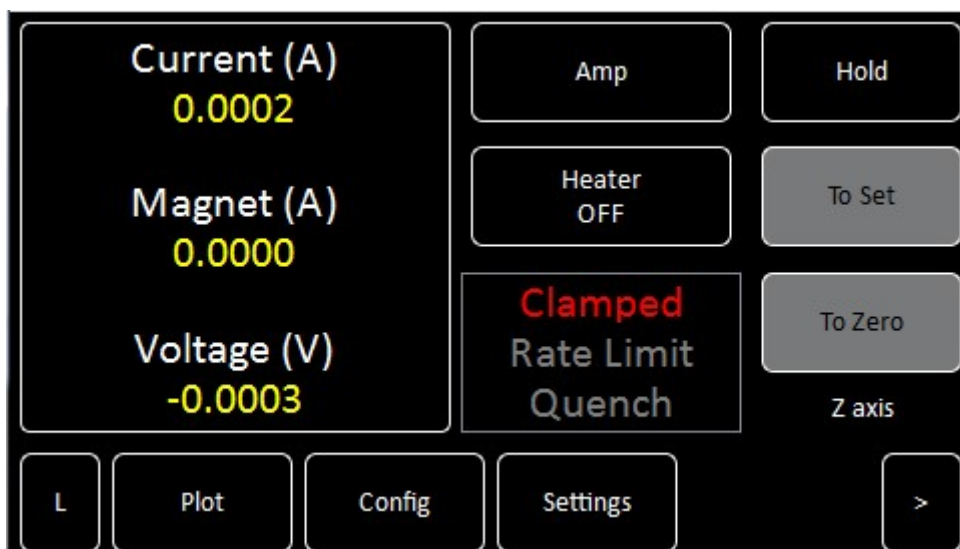

Figure 6. Mercury iPS home screen for the standard Solenoid configuration.
- 3 The **MercuryiPS** initialises, then the **Home** page appears on the touch screen (Figure 6).